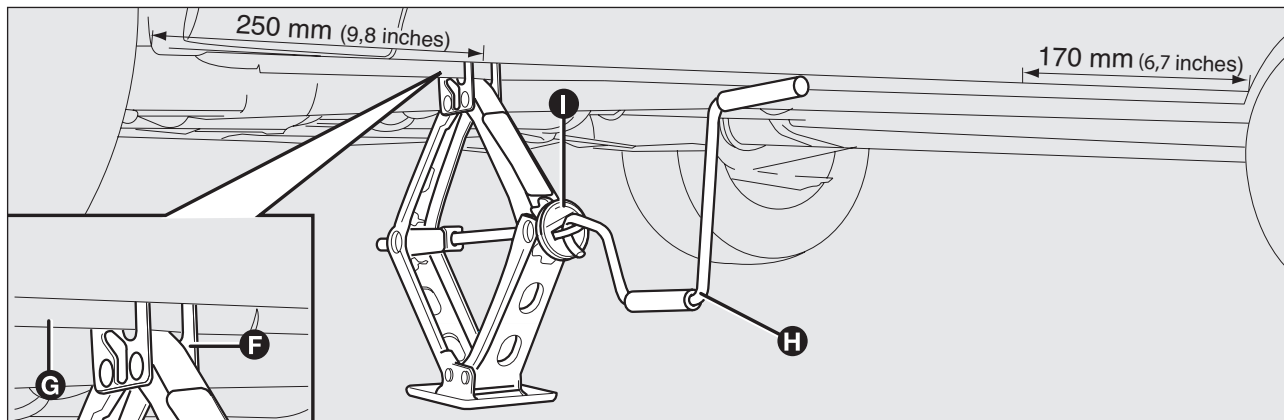

fig. 6
- make sure that the groove **F**-fig. 6 of the jack is well in contact with the tab **G** of the side member;